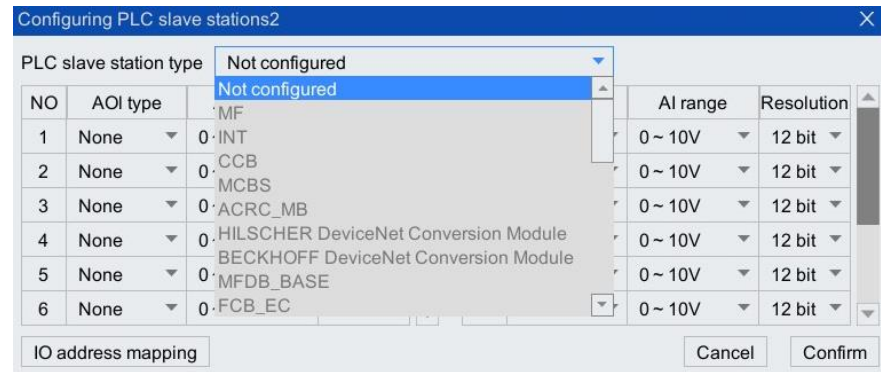

Figure 18-11 [Configure PLC slave station] interface
Step7. Select the serial number to be configured, click < Configuration >, and enter the [Configuration PLC Slave] interface. As shown in Figure 18-11.